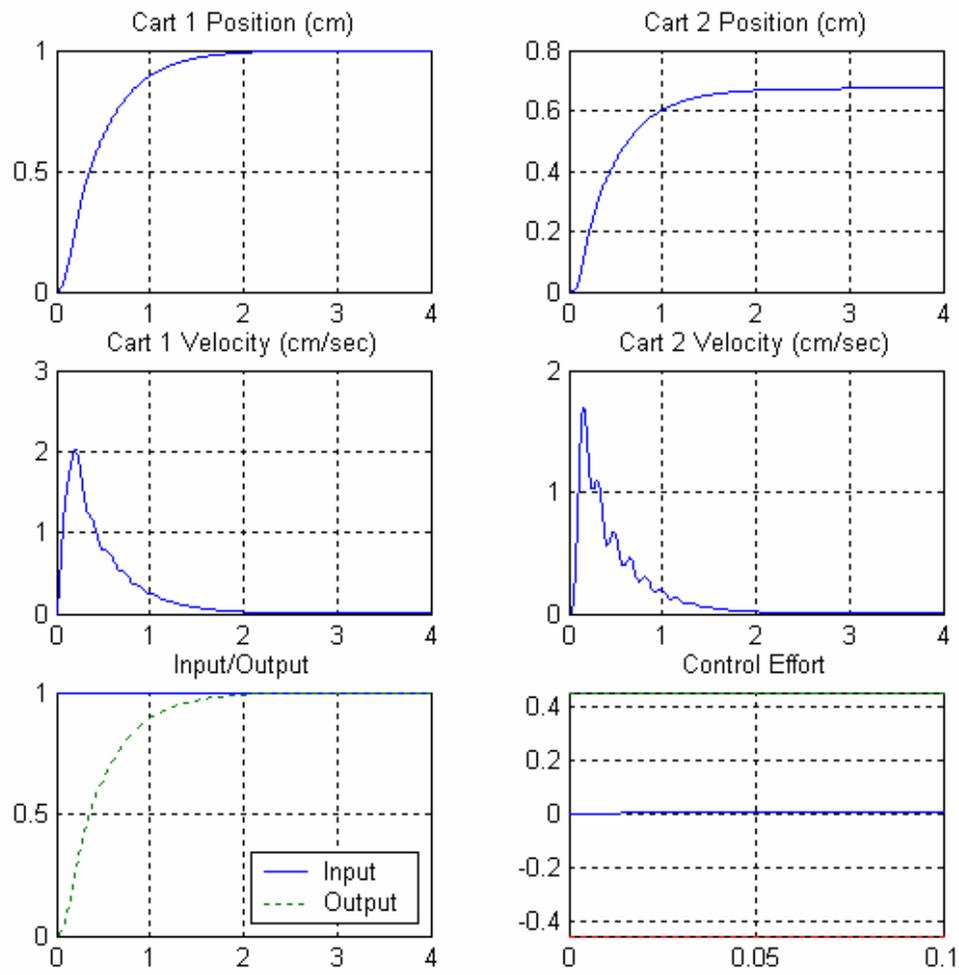

Figure 2. Step response of a two degree of freedom system using the lqr command. The position of the first cart is being controlled.
b) Utilizing an lqr controller, the last Q penalty value is a penalty on the new (augmented) state. Using the command $k = \text{lqr}([0.1 \ 0 \ 0.1 \ 0 \ 1], 10)$ and controlling the position of the first cart you should get the results displayed in Figure 2. Turn in your plot.